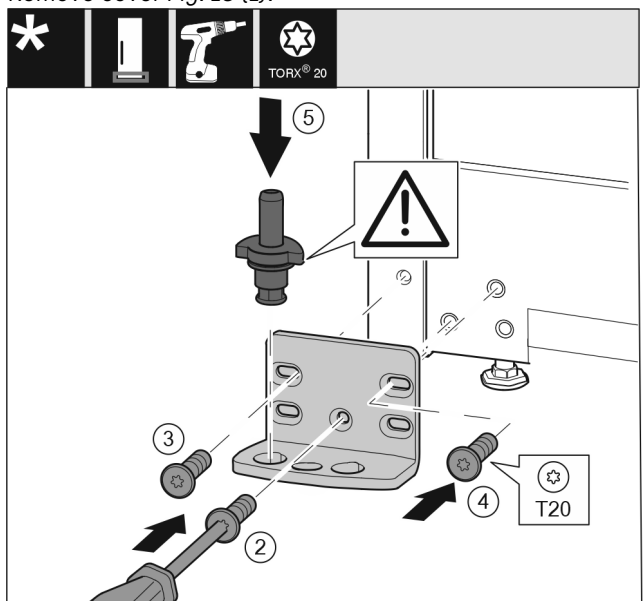

Fig. 19
- ▶ Place the swap bearing block on the other side and use a screwdriver to screw it on. Start with the screw Fig. 19 (2) at the bottom in the middle.
- ▶ Tighten screw Fig. 19 (3) and screw Fig. 19 (4).
- ▶ Insert the bearing bolt Fig. 19 (5) completely. Ensure that the latching cam is pointing towards the rear.